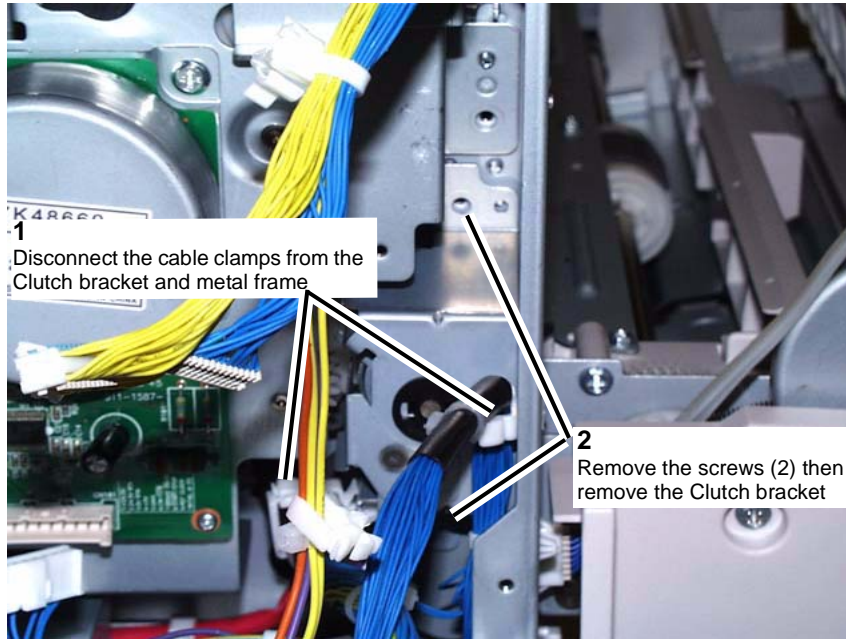

Figure 9 Removing the Clutch bracket
12. Remove the Clutch bracket. (Figure 9)